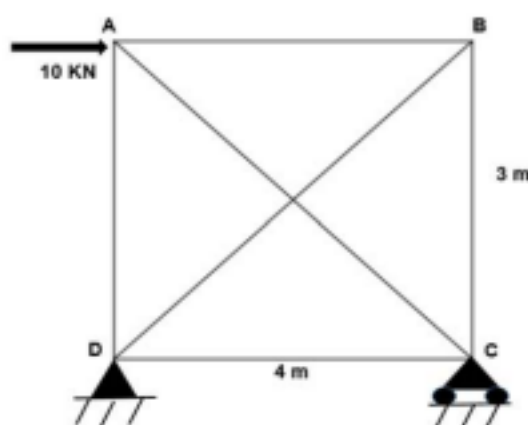

Fig.6
a) Determine the forces in all the members using method of substitution, for the below given Fig.6